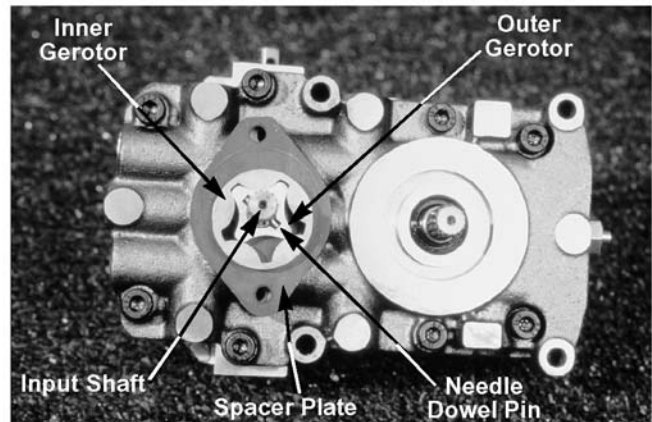

Figure 5-16.
- D. Spacer plate. See Figure 5-16.